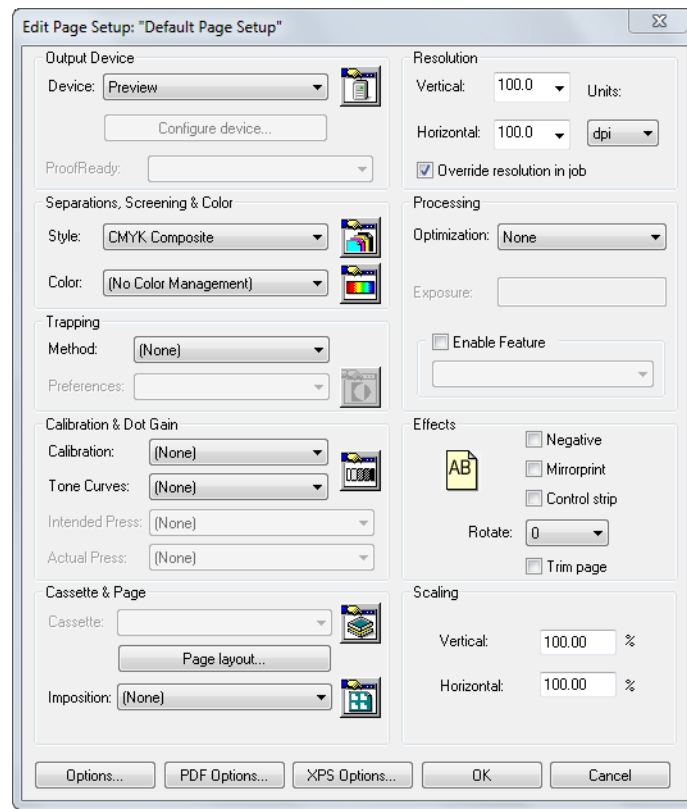

Figure 2 Page Setup dialog
2. In the Page Setup Manager, click **New** to create a new page setup or select an existing page setup and click **Edit** to open the New/Edit Page Setup dialog (Figure 2).